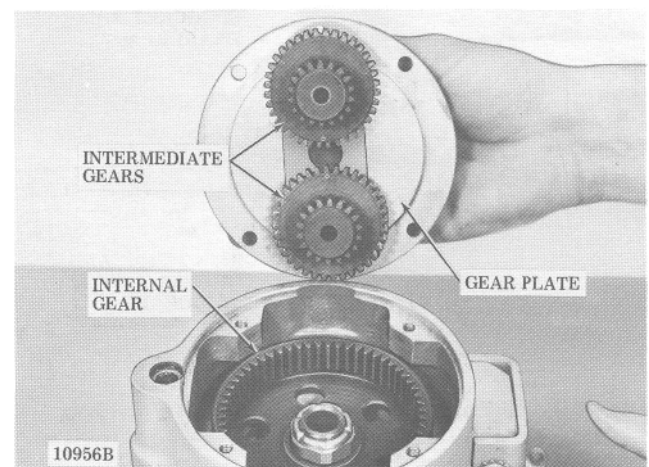
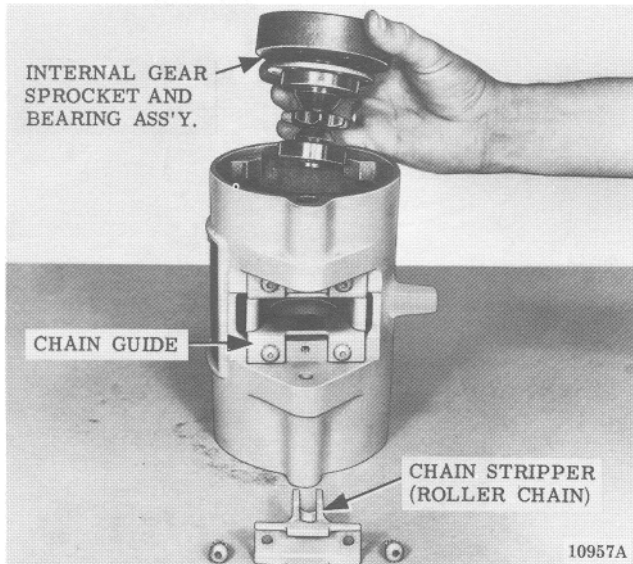

Figure 7-10. Removing Gear Plate and Intermediate Gears.
Figure 7-11. Removing Internal Gear, Chain Sprocket and Ball Bearing Assembly (Roller Chain Model).
(2) Remove four socket head screws securing gear plate to frame and lift off plate and intermediate gears as a unit (Figure 7-10). Do not remove the two socket head screws from flange around brake wheel bearing hole (Figure 7-9) unless it is necessary to replace intermediate gears.
(3) On roller chain models, remove two fillister head screws attaching chain stripper to frame and lift out stripper. Chain stripper on coil chain models is integral with chain guide.
(4) On coil chain models, remove four fillister head screws attaching chain guide and stripper assembly to hoist frame. This will free guide to allow sprocket to be pulled through it as it is removed in step (5). Refer to Figure 7-11.
(5) Rotate internal gear (Figure 7-10) until holes in web align with six socket head screws securing bearing clamp plate to frame. Remove internal gear, chain sprocket and ball bearings as a unit (Figures 7-11 and 7-12). It may be necessary to tap sprocket to free ball bearings from bores in frame.